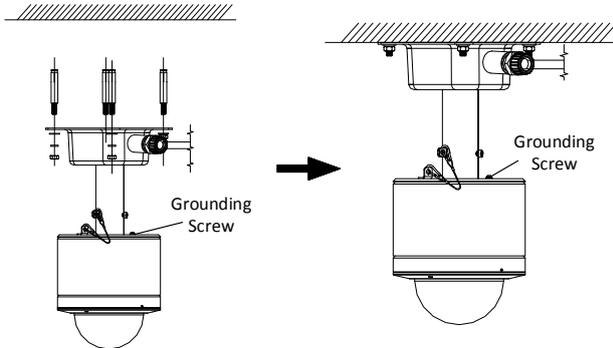

Figure 2-11 Mount the Bracket and Explosion-proof Dome
3. Fix the mounting bracket onto the wall by inserting the four expansion screws. Insert the flat washer and the spring washer. Then tighten the four screws to secure the installation plate as shown in Figure 2-11.